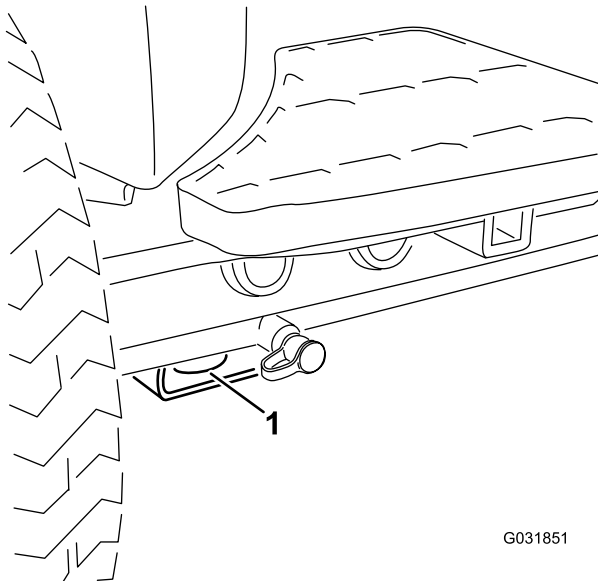
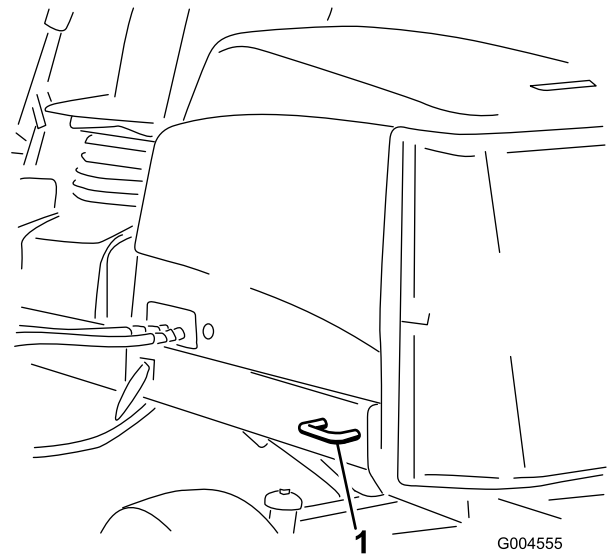

Figure 39
Figure 40
5. Use the metal tie-downs on the machine to securely fasten the machine to the trailer or truck with straps, chains, cable, or ropes (Figure 39 and Figure 40).
- Front—the hole in the rectangular pad, under the axle tube, inside each front tire (Figure 39).
- Rear—each side of the machine on the rear frame (Figure 40).